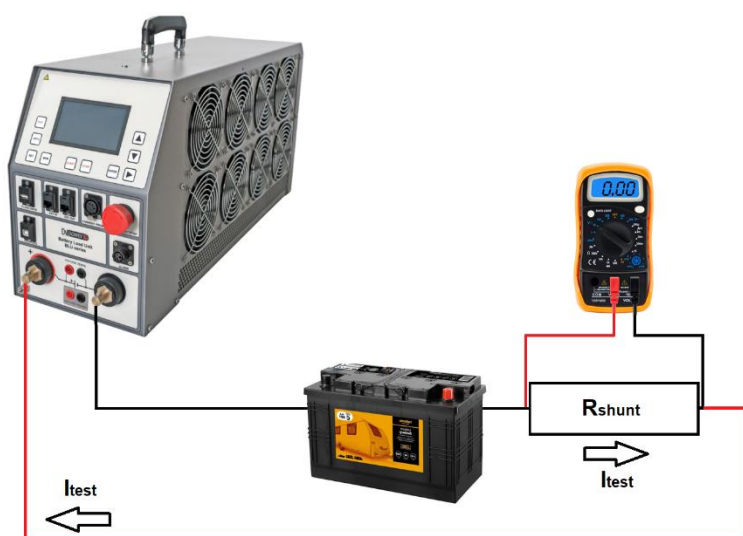

Figure 8-2: Connection of BLU device for DC current measurement check.
1. Connect BLU device, a battery, a DC voltmeter and a 1 mΩ/100 mΩ test shunt (depending on the test current), as shown in Figure 8.2.